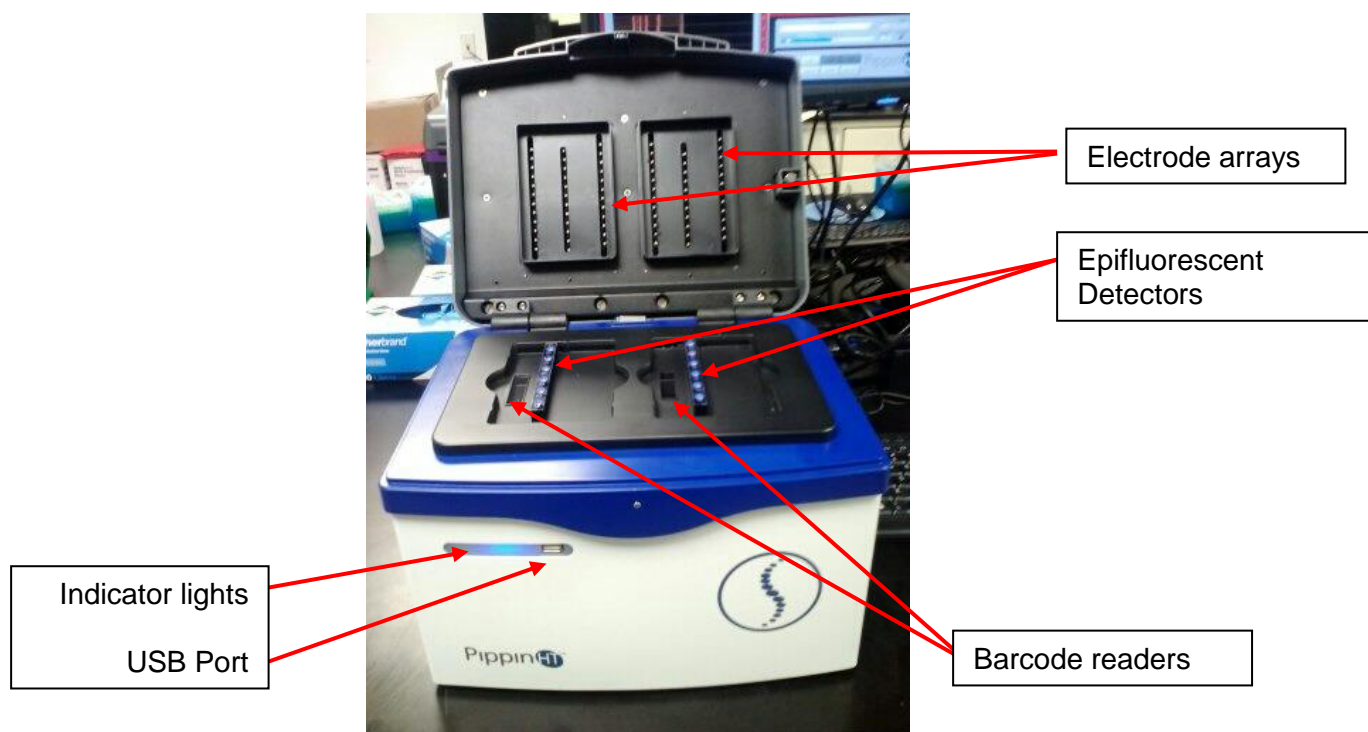

Figure 1.1. Layout of the PippinHT instrument
- **Instrument** – The instrument features two epifluorescent detector arrays, two barcode readers, an electrophoresis power supply, two electrode arrays, and a single-board computer. The system computer is accessed by an external LCD monitor, mouse, and keyboard. (Figure 1-1)